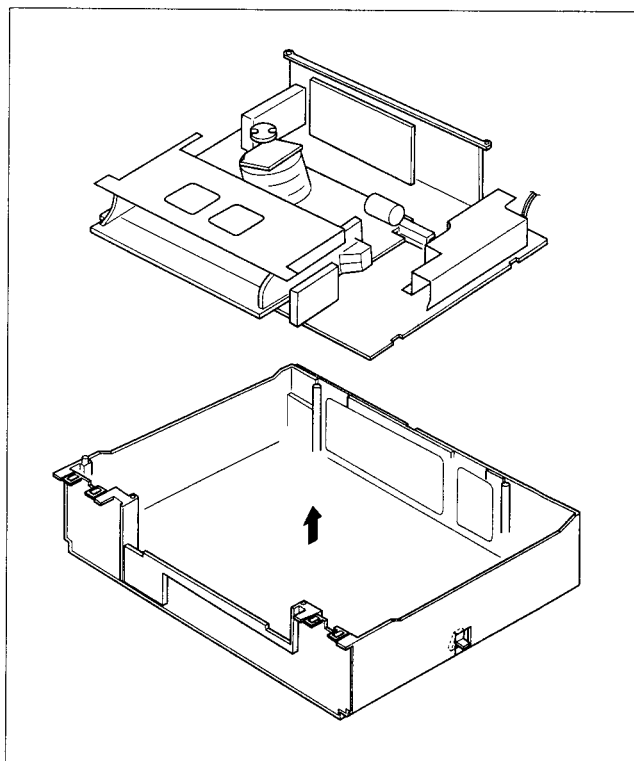

Fig. 1-5-2
- (3) Remove the Mechanism assembly (including Cassette housing) and Main board assembly out of the chassis as shown in Fig. 1-5-2.